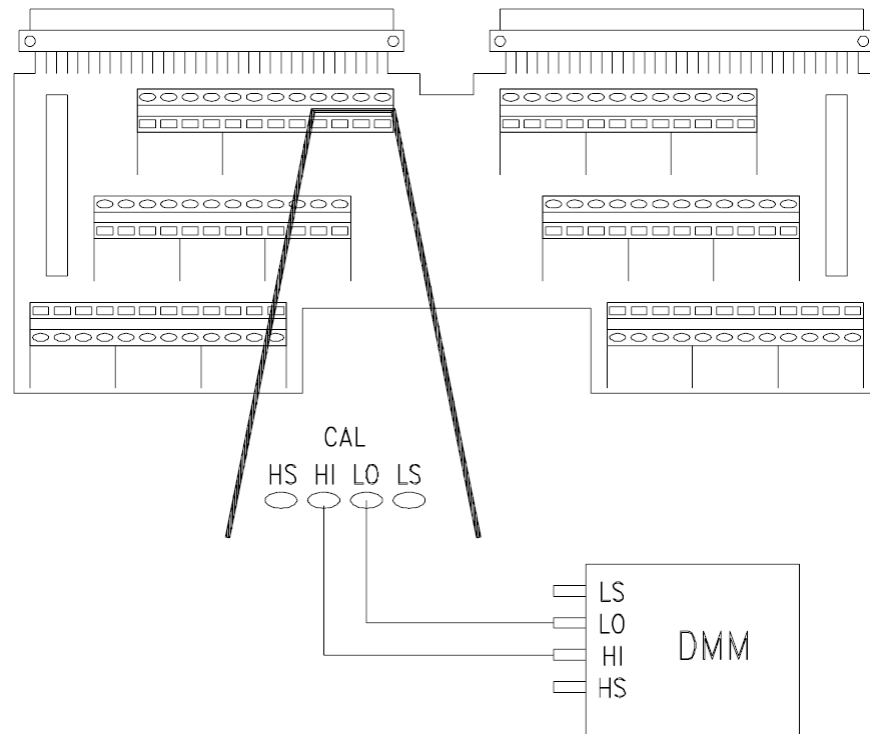

Figure D-2 Voltage Calibration Connections (CAL)
- 1** Make the connections shown in Figure D-2 or D-3.